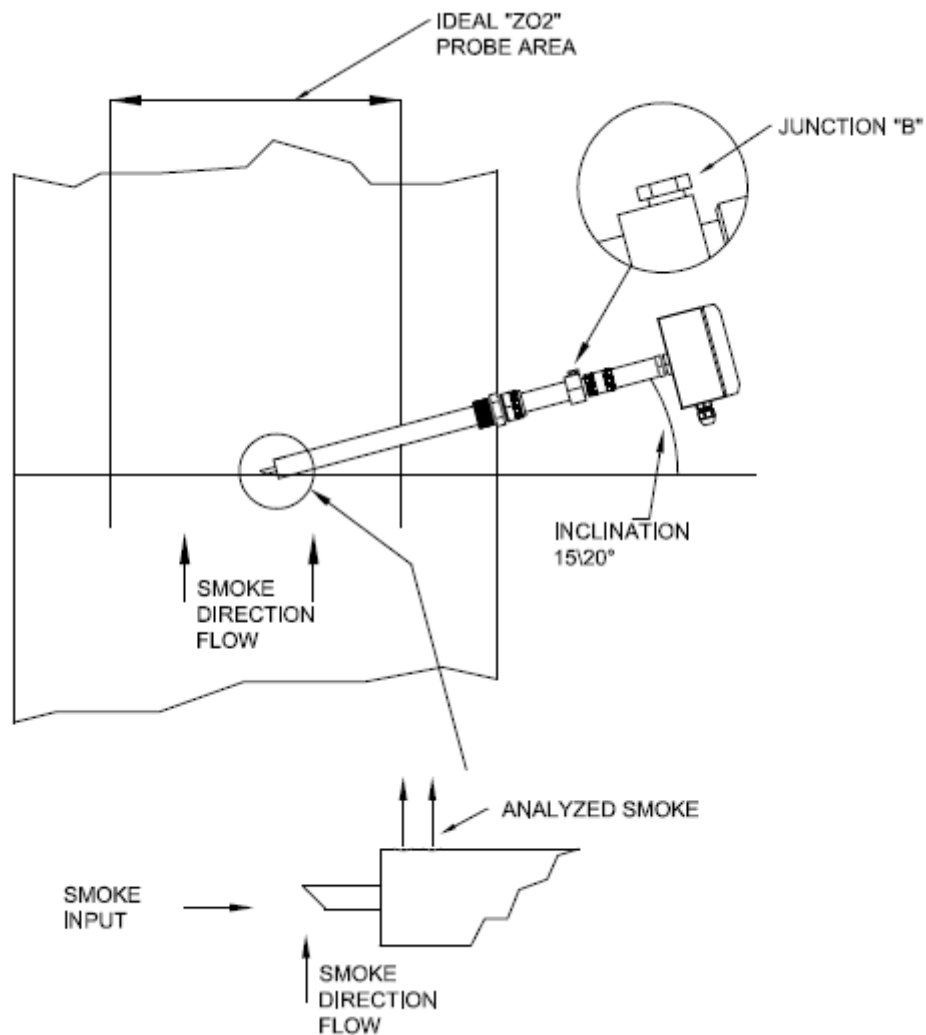

Figure 1
- Place probe perpendicular to the smoke direction flow and tilted about 15-20° (see figure 1)
- Insert probe in central area of the duct (as shown in figure 1) and then lock the probe in position by tightening the fixing nipples